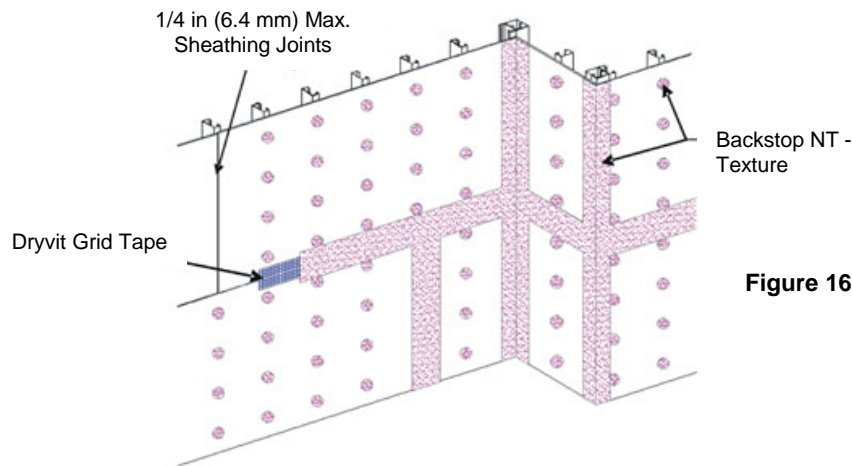

Figure 16
- 1) Apply Dryvit Grid Tape as described in Section VI.E.1 above. Mix the Backstop NT - Texture material as described in Section III.B.2. Using a stainless steel trowel or spatula, apply a layer of Backstop NT - Texture over the Dryvit Grid Tape and spot all fastener heads – Figure 16. **NOTE: Dryvit Grid Tape is not necessary over fastener heads.**